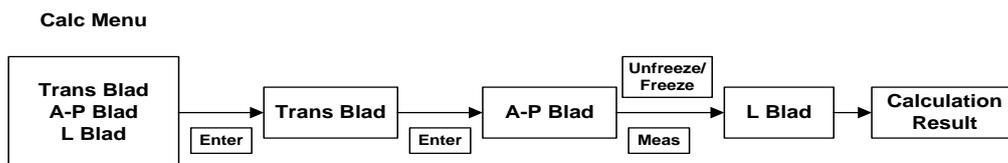

Fig. 8-32 Scheme for the continuous measurement process
**Example:** When users need to measure the amount of residual urine, they only need to go into the relevant sections. After selecting **Trans AU Blad (transverse diameter of the bladder after urination)** , the remaining two diameter measurements will be performed directly and continuously. The measurement sequence is shown in Fig. 8-32.